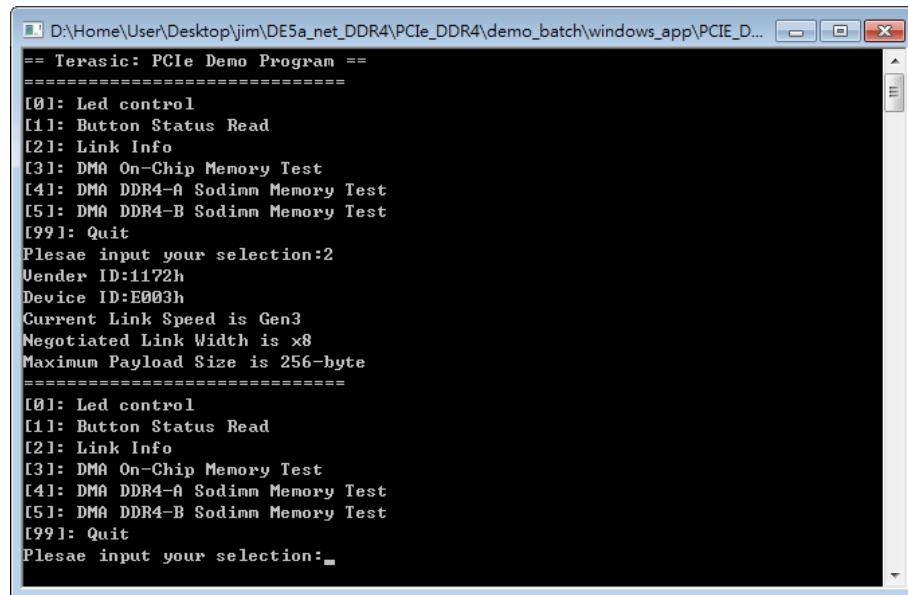

Figure 7-17 Screenshot of Link Info
8. Type 2 followed by a ENTER key to select Link Info item. The PCIe link information will be shown as in **Figure 7-17**. Gen3 link speed and x8 link width are expected.